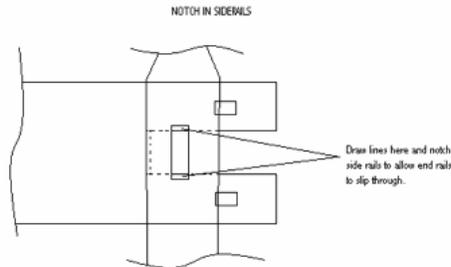

FIGURE 8
4. Put the tennons from the rail through the legs again. This time you need to use your pencil to mark where the head and foot boards go through the legs, Figure 8. A small amount of material has to be removed. Once again, use each of the rails in all four legs. Use a jig saw to remove the two notches on each end.
1. The center slat first because it's different from the rest. Take your 1"x8"x58" board and lay it out as in figure 8. Cut the shoulder with a jigsaw or a bandsaw.